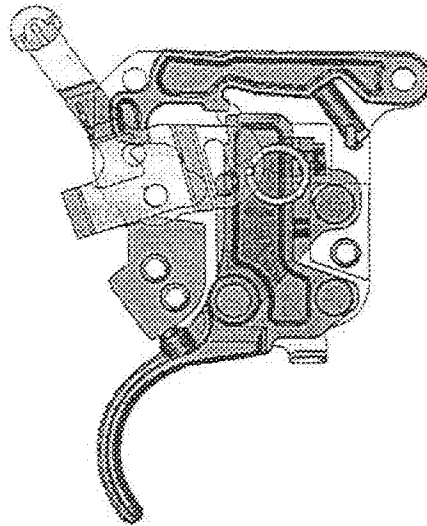

Figure 8
8. Place the sear spring on the sear spring support in the trigger housing as shown in Figure 8. - Rotate the tail of the sear safety cam downward until it passes the rear trigger assembly mounting hole and insert a m7 bolts stop pin to hold it down. Check to ensure the sear spring is properly located in the housing and on the sear.